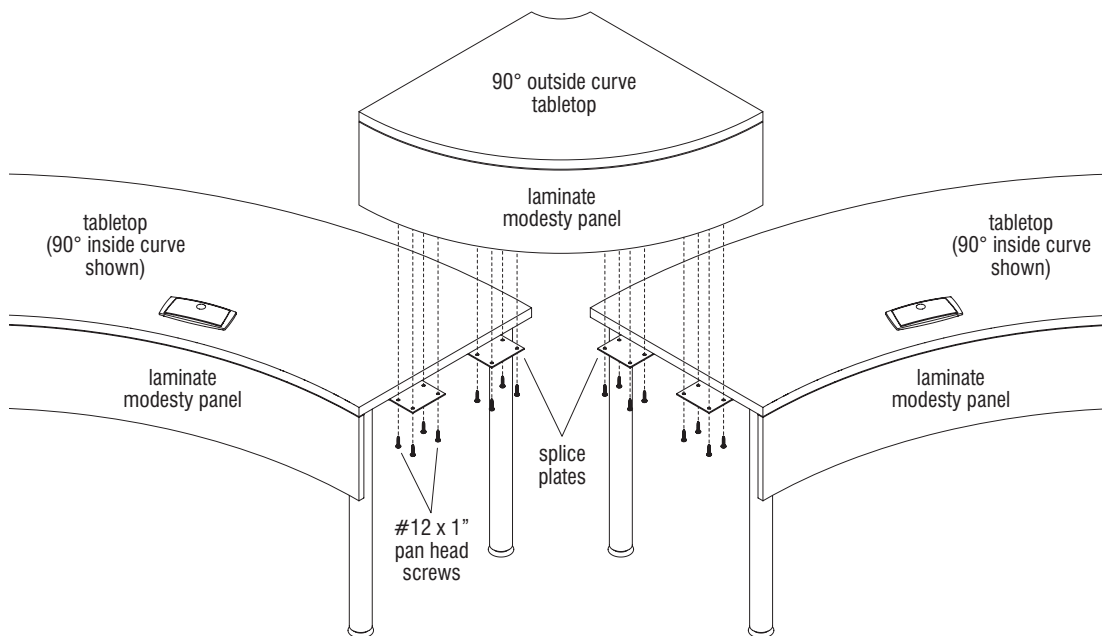

Figure 1
1. Position the Node grommets above the tabletop cutouts (Figure 1 & Detail C).
2. Push the grommets into each cutout, tapping lightly with a rubber mallet if required. Use caution to avoid scratching the grommet (Figure 1 & Detail C).
1. Place the two tables that will support the 90° outside curve tabletop near their final installation location (Figures 1 & 2).